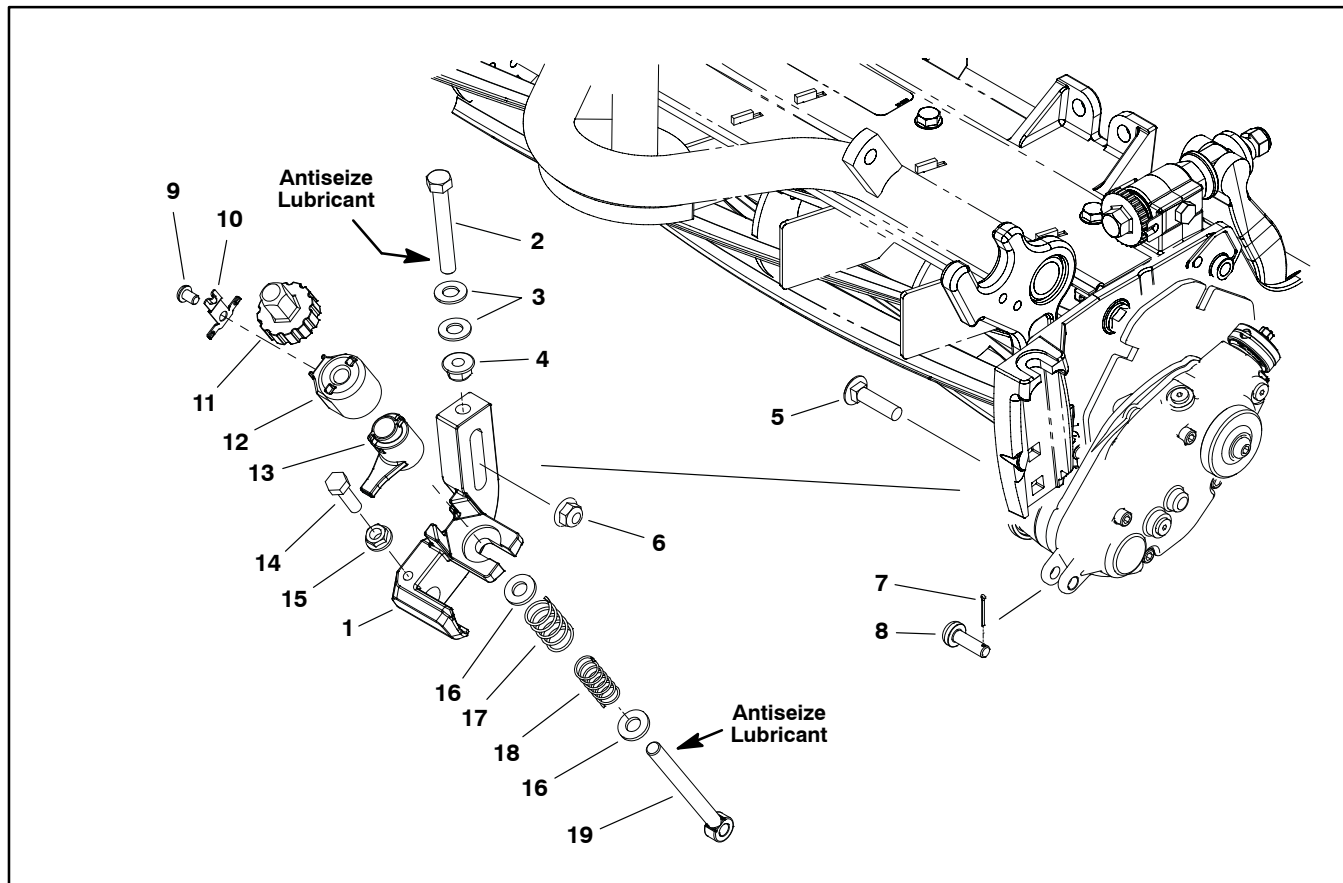

Figure 14
### Disassembly (Fig. 14)
3. Loosen the two (2) height adjustment bolt lock nuts.
4. Loosen the two (2) front roller pinch bolt lock nuts and cap screws.
**Assembly (Fig. 14)**
2. If both height adjusters were removed, fit one height adjuster assembly to the cutting unit side plate and secure with carriage bolt and flange nut. Do Not tighten the flange nut at this time. Ensure the height adjustment bolt and one (1) washer is above slot in side plate and one (1) washer and lock nut is below slot in side plate.
3. Position front roller between height adjuster assemblies and secure height adjuster assembly to cutting unit side plate with carriage bolt and flange nut. Do Not tighten the flange nut at this time. Ensure the height adjustment bolt and one (1) washer is above slot in side plate and one (1) washer and lock nut is below slot in side plate.